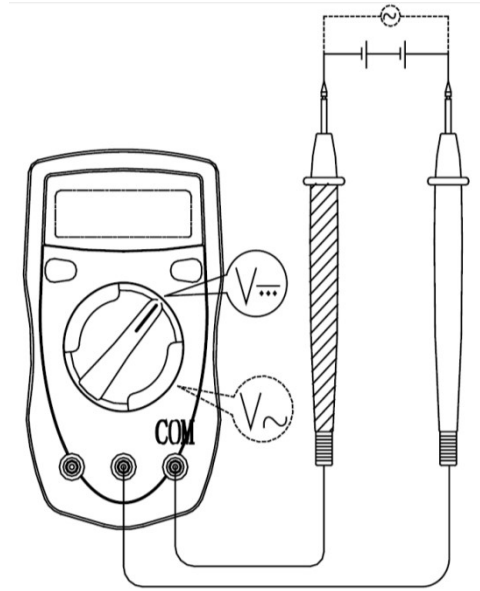

Fig. 1.2: Rotary switch positions for voltage measurements
- One of the $V \text{---}$ positions for DC voltage measurements (Fig. 1.2);
- One of the $V \sim$ positions for AC voltage measurements (Fig. 1.2);